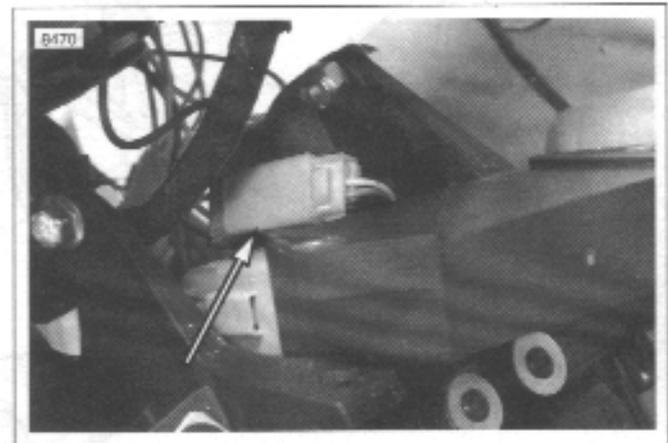

Figure 2-92. Headlight Connector
- a. Loosen headlamp pivot fasteners (1).
- b. Rotate headlight bracket (2) down.
6. See Figure 2-92. Disconnect headlight connection.
4. See Figure 2-92. Attach headlight connector to headlight support bracket.